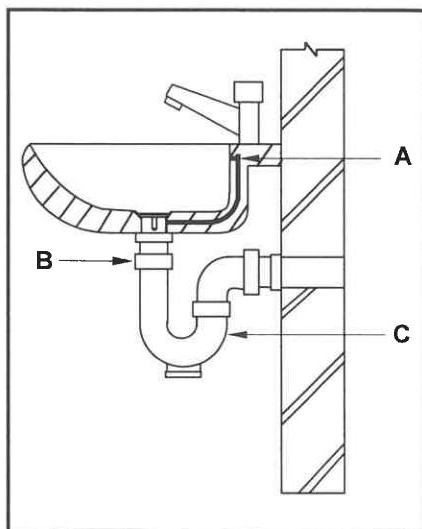

FIGURE 6.2
6.2 FIGURE 6.2 below shows a sectional view of a sanitary installation.